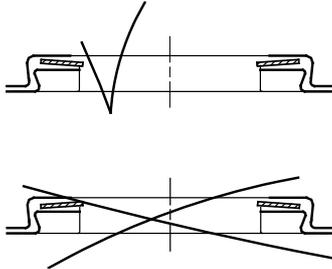

Fig. 31 Correct fitting of wear ring
<ul style="list-style-type: none"> Check whether it is necessary to replace the impeller due to friction between wear ring and impeller skirt. If wear has caused a noticeable (use a finger nail) groove in the impeller skirt, the impeller should be replaced. It is advisable always to replace wear rings (pos. 45) and wear ring retainers (pos. 65) when the chamber stack is dismantled. 	<ol style="list-style-type: none"> Prise the wear ring retainer (pos. 65) up and free of the chamber using a screwdriver. Remove wear ring (pos. 45). Fit a new wear ring in the chamber. See fig. 31. Press a new wear ring retainer on the wear ring and into the chamber. It must be possible to move the wear ring freely (sideways) between the retainer and the chamber.